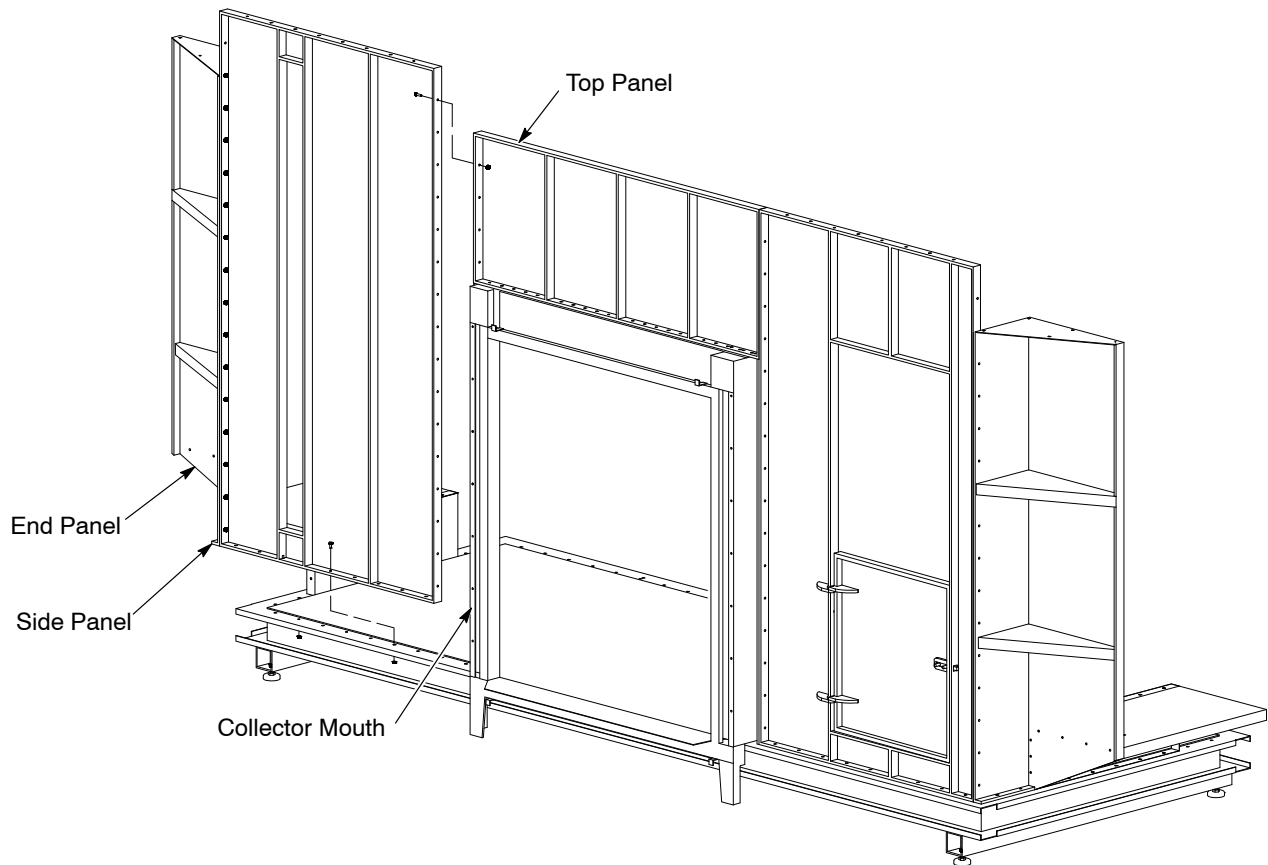

Figure 6 Corner Panel Assembly
10. See Figure 6. Build a second corner panel assembly as shown, using 5/16–18 hex head bolts and hex nuts.